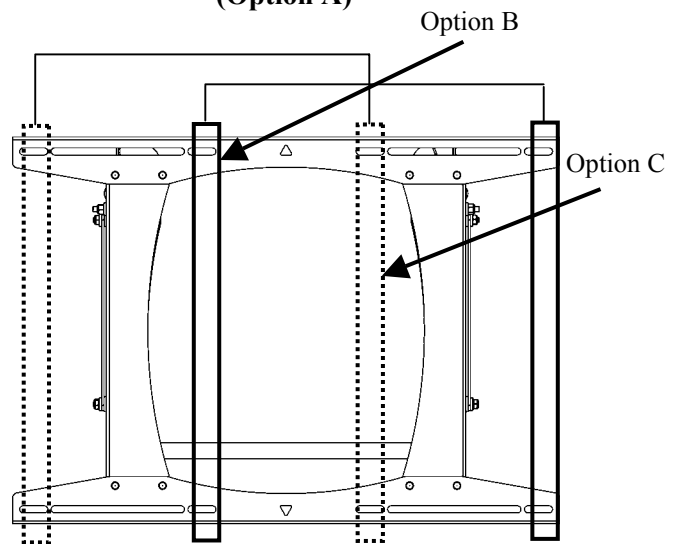

Figure 6. Mounting Holes – 16" Apart on Center (Options B and C)
- **Option B.** Install four lag bolts and four washers (two top and two bottom) into the mounting holes that are *right of center* on dual wood studs 16" apart as shown in Figure 6.
- **Option C.** Install four lag bolts and four washers (two top and two bottom) into the mounting holes that are *left of center* on dual wood studs 16" apart on center as shown in Figure 6.